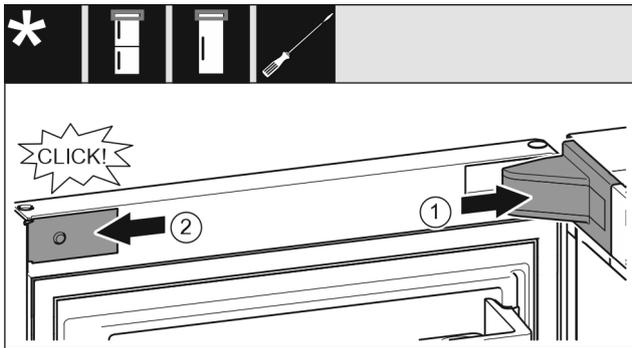

Fig. 21
- ▶ Position the bearing bracket and latch it in place. If necessary push it apart carefully. *Fig. 21 (1)*
- ▶ Position the panel on the side and latch into place. *Fig. 21 (2)*